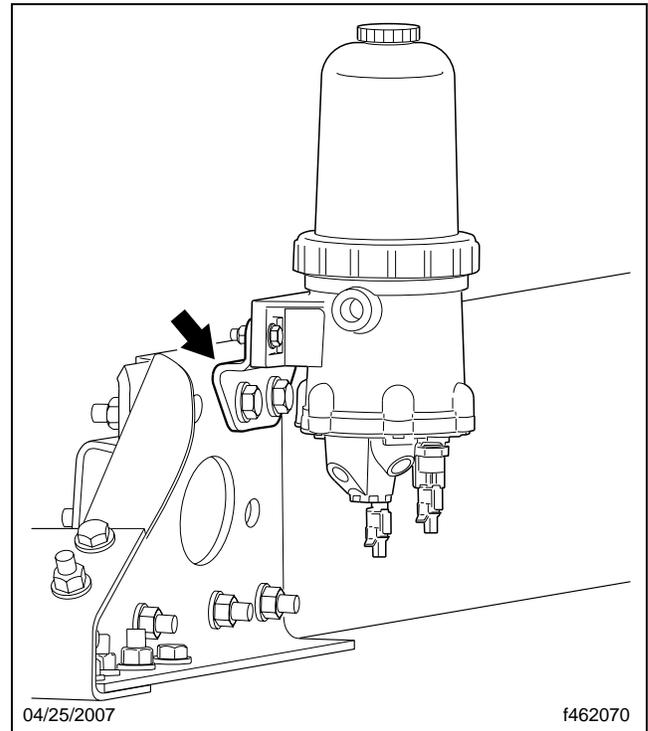

Fig. 4, Fuel/Water Separator Mounting Bracket
26. Install the fuel/water separator in the new location, as shown in **Fig. 4**.